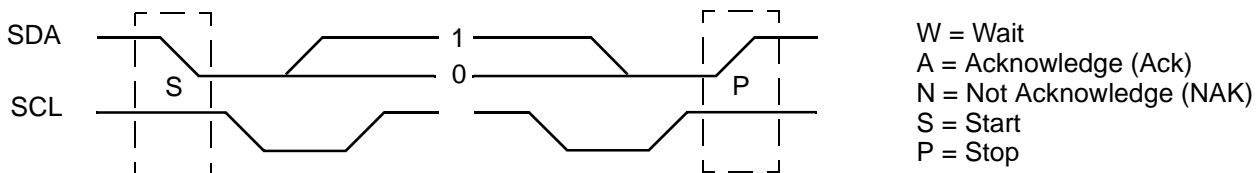

Fig. 3–1: I²C-bus protocol for the MAS 3506D. Signals originating from the MAS 3506D are grayed.
Figure 3–1 shows I²C bus protocols for read and write operations of the interface; the read operation requires an extra start condition and repetition of the I²C-device address with the read command (DR). Fields with signals/data originating from the MAS 3506D are marked by a gray background. Note that in some cases the data reading process must be concluded by a NAK condition.